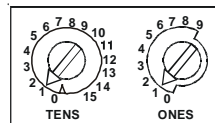

Figure 1: Rotary Decade address Switch
- Set the sensor address (see Figure 1) by using a flat blade screwdriver to turn the two rotary switches, selecting the desired number between 01 and 159. **Note:** Some control panels are only able to use 99 addresses. Check with the fire panel manufacturer to clarify this. Record the address on the label attached to the base.